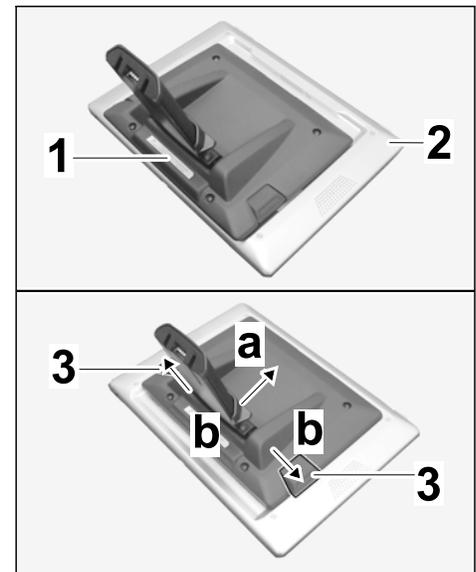

Figure 7
3.2.1 Position holder on the lower edge of the display unit (⇒ *Figure 7-top-*).
3.2.2 Push the holder up (⇒ *Figure 7-a-*) and carefully press the display unit down at the same time until the locking mechanisms at the sides engage (⇒ *Figure 7-b-*).